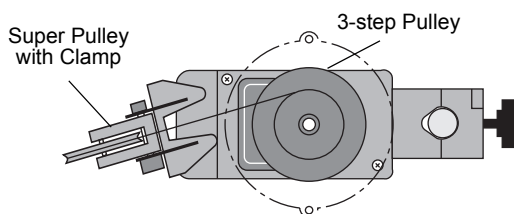

Figure 2.4: Super Pulley Position
5. Adjust the Super Pulley with Clamp to an angle so that the thread runs in a line tangent to the point where it leaves the 3-step Pulley and is straight down the middle of the groove on the Super Pulley. See Figure 2.4.